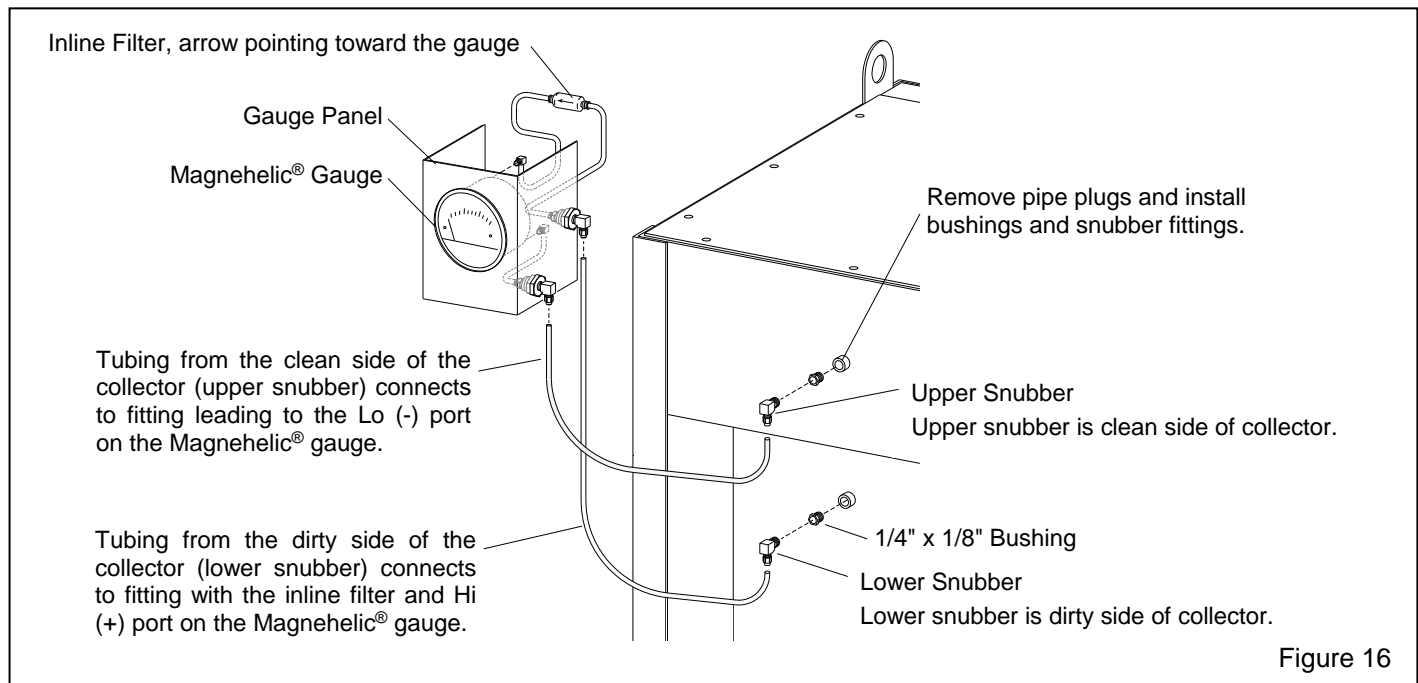

Figure 16
**4.2 Differential-Pressure Gauge Kit – Figure 16**
**4.2.1** The gauge panel, gauge, filter, and panel fittings come fully assembled; the bushings, snubber fittings, and tubing are loose. Mount the panel on the cabinet, dust collector, or at a location where it can be easily monitored. The kit includes 20 feet of tubing, allowing the panel to be mounted within 10 feet of the dust collector connections, as shown in Figure 16.
**4.2.3** Remove 1/4" pipe plugs from the dust collector body and install 1/4" x 1/8" bushings and snubber fittings as shown in Figure 16.
**4.2.5** Cut the tubing to length and connect the other end to the fittings and gauge panel as shown in Figure 16; make sure the tubing ends are connected to the correct fitting, as shown in the illustration.